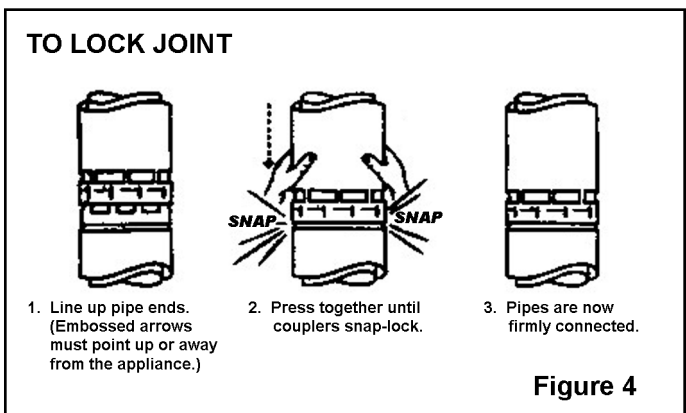

Figure 4
1. AmeriVent Pellet Vent pipe and fittings are connected by a secure snap-lock feature. Line up the pipe ends and press together until the couplers snap-lock. The pipes are now firmly connected (Figure 4). Sheet metal screws are not necessary to connect sections together.